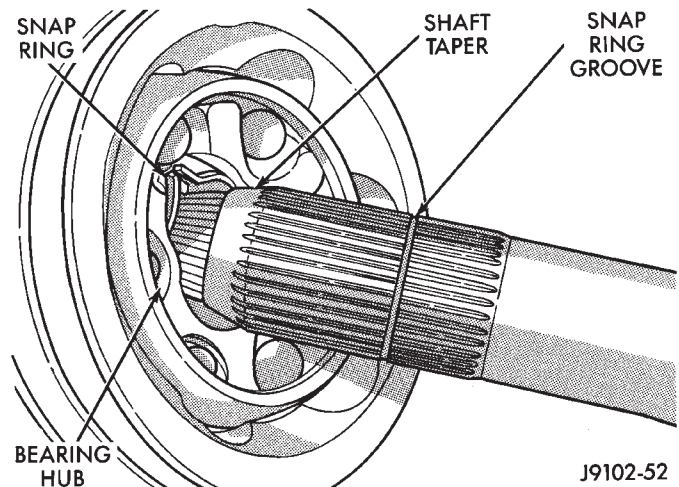

Fig. 24 Outer C/V Joint Installation
(8) Position the small-diameter end of the replacement boot on the interconnecting shaft. Retain the boot with a replacement clamp.
(9) Apply the required amount of lubricant to the outer C/V joint and boot.
(10) Align the shaft splines to the outer C/V joint splines. Push the outer C/V joint until the snap ring seats in the groove (Fig. 24).